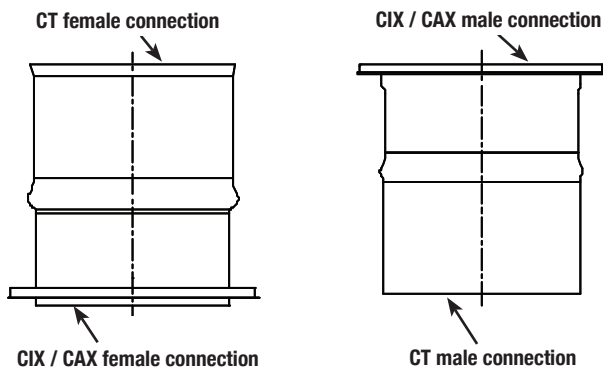

Figure 44 - CIX / CT, CT / CIX adaptor
1. Used to connect model CIX / CAX chimney to model CT chimney. See **Figure 44**.